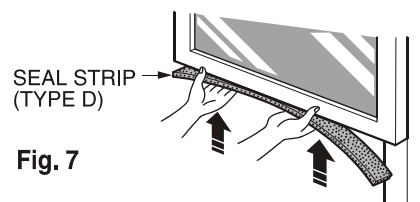

Fig. 7
2. Cut the adhesive-backed seal strip (TYPE D) to match the window width. Remove the backing from the seal strip and attach the seal strip to the underside of the bottom window. (Fig. 7)